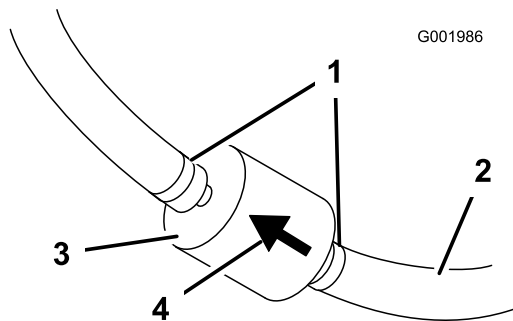

Figure 46
5. Squeeze the ends of the hose clamps together and slide them away from the filter (Figure 46).